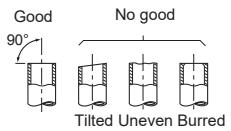

Fig. 2
- 4) Process the end of ground wire (Fig. 2). Connect it to the ground terminal of the electrical parts box.
- 5) Process the end of indoor/outdoor unit connecting wire (D) (Fig. 2). Attach it to the terminal block. Be careful not to make miswiring. Attach the wire to the terminal block securely so that its core cannot be seen, and no external force affects the connecting section of the terminal block.